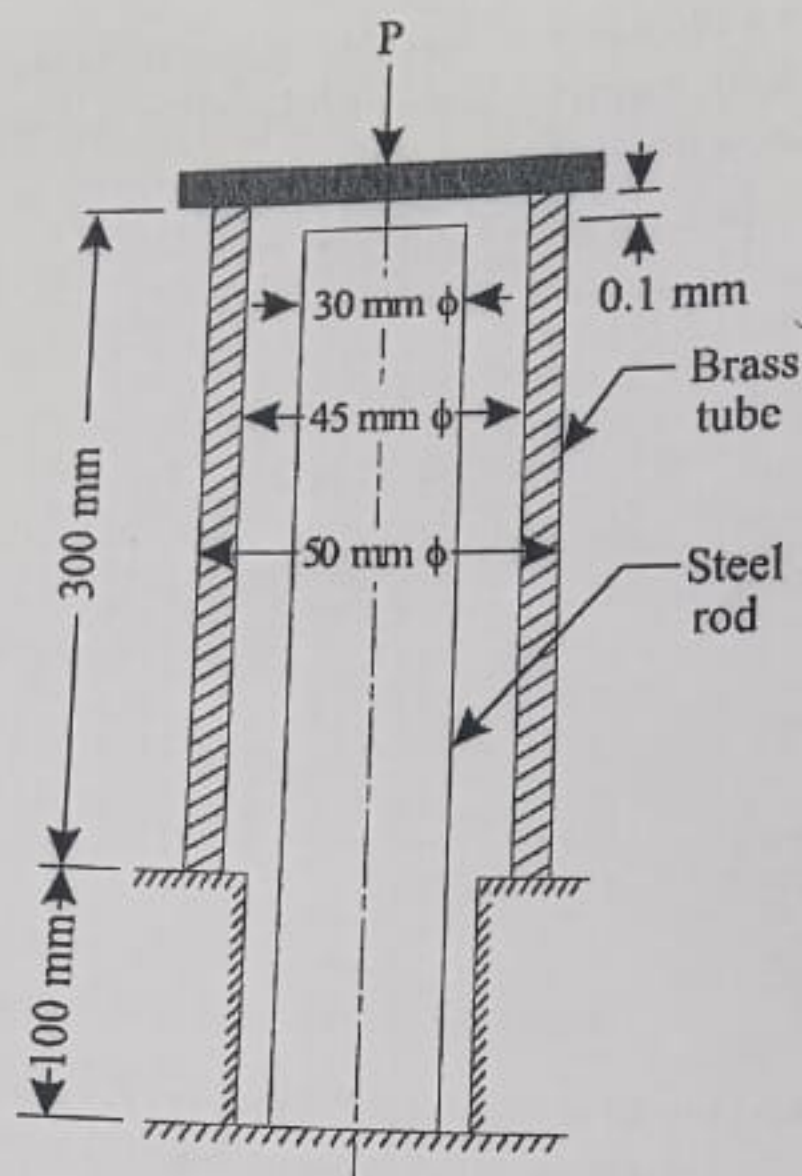

Figure 5
- 9.a) Figure. 5 shows a round steel rod supported in a recess and surrounded by co-axial brass tube. The upper end of the rod is 0.1 mm below that of the tube and an axial load is applied to a rigid plate resting on the top of the tube.